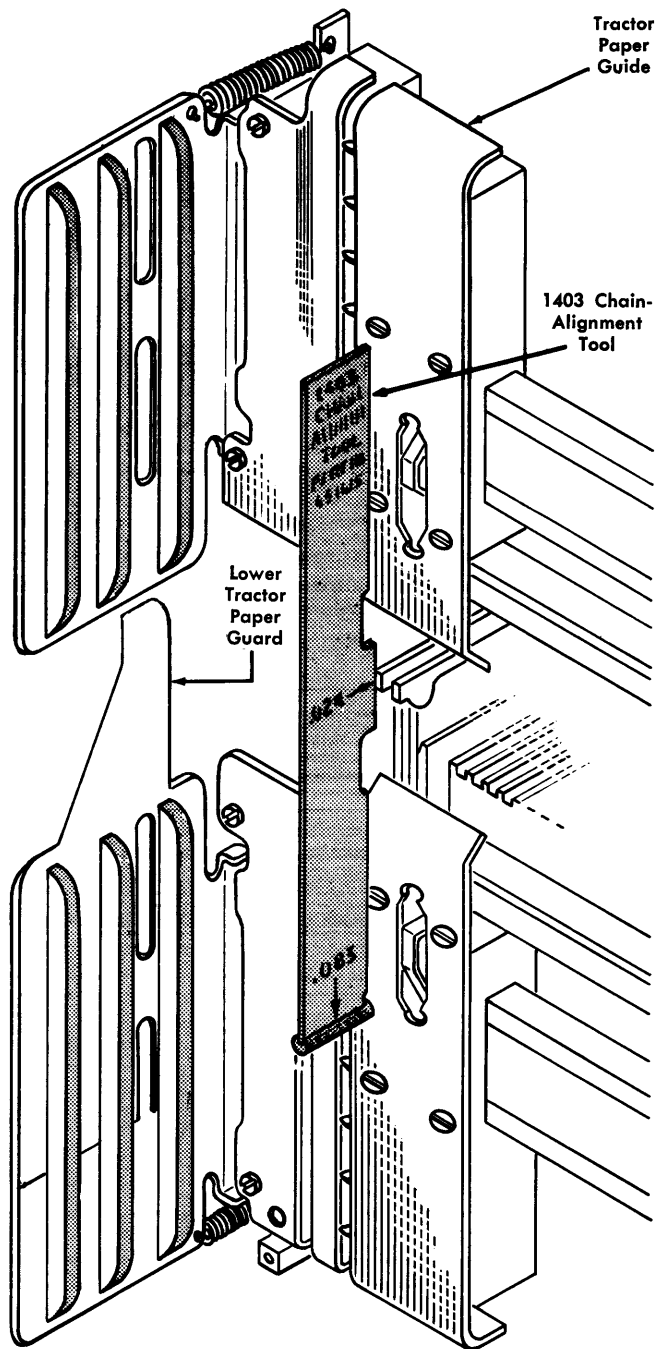

Figure 32. Hammer-Unit Assembly to Paper Path Alignment
5. With the tractor doors open, place the special chain-alignment tool (part 451615) vertically against the tractor paper-guide plates (Figure 32). The projection in the center part of the tool is .024".